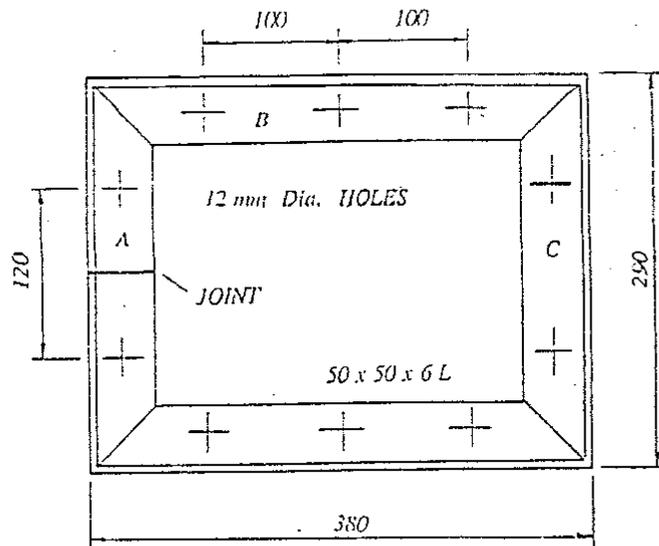

FIG 2
- 2.2 FIGURE 2, DIAGRAM SHEET 1 shows the top view of an angle-iron frame.